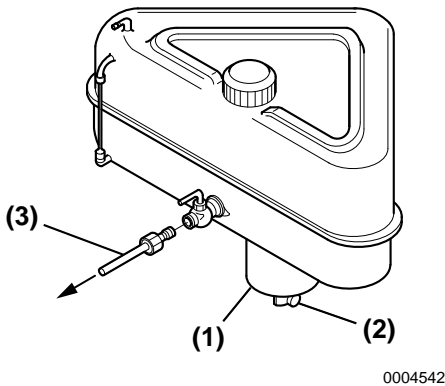

Figure 1
Install a drain cock (**Figure 1, (2)**) at the bottom of the fuel tank to remove water and contaminants from the sediment bowl (**Figure 1, (1)**).